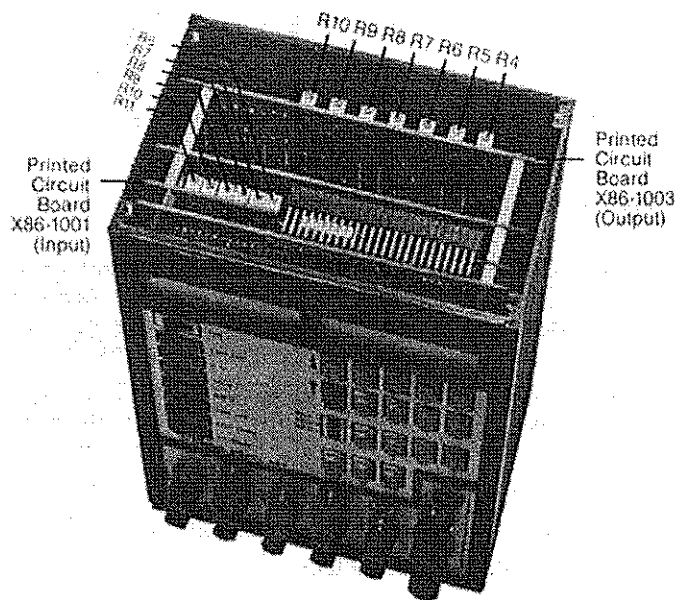

Figure 6-1
6.2.1 Adjustment Potentiometers: The five potentiometers used to calibrate the input are located at the top of PC board X85-1001 and the potentiometers used to calibrate the output are at the top of PC board X86-1003. These potentiometers are accessible when the top plate of the calibrator is removed. See Figure 6-1, which shows the location of the adjustment potentiometers.